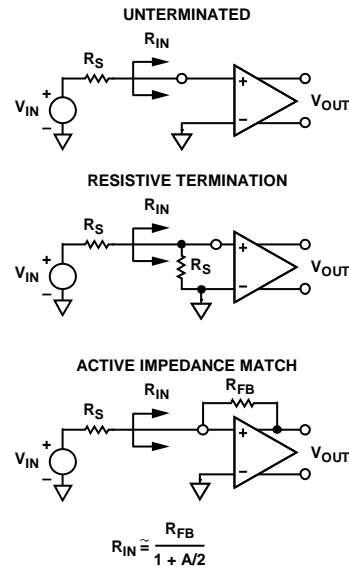
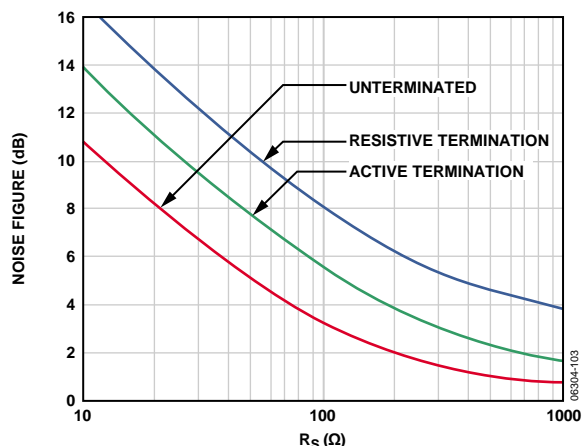
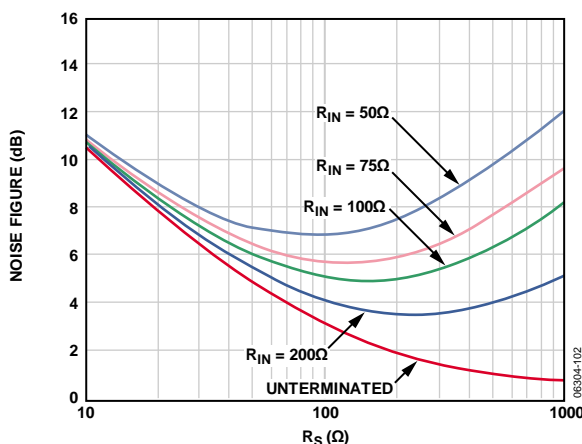

Figure 43. Input Configurations
Figure 44. Noise Figure vs. R_S for Resistive Termination, Active Termination Matched, and Unterminated Inputs, $V_{Gain} = 1$ V, 15.6 dB LNA Gain
Figure 45. Noise Figure vs. R_S for Various Fixed Values of R_{IN} , Active Termination Matched Inputs, $V_{Gain} = 1$ V, 15.6 dB LNA Gain
The short-circuit noise voltage (input-referred noise) is an important limit on system performance. The short-circuit noise voltage for the LNA is 1.2 nV/ $\sqrt{\text{Hz}}$ or 1.4 nV/ $\sqrt{\text{Hz}}$ (at 15.6 dB LNA gain), including the VGA noise. These measurements, which were taken without a feedback resistor, provide the basis for calculating the input noise and noise figure (NF) performance of the configurations shown in Figure 43. Figure 44 and Figure 45 are simulations of noise figure vs. R_s results using these configurations and an input-referred noise voltage of 4 nV/ $\sqrt{\text{Hz}}$ for the VGA. Underterminated ($R_{FB} = \infty$) operation exhibits the lowest equivalent input noise and noise figure. Figure 45 shows the noise figure vs. source resistance rising at low R_s —where the LNA voltage noise is large compared with the source noise—and at high R_s due to the noise contribution from R_{FB} . The lowest NF is achieved when R_s matches R_{IN} .
The primary purpose of input impedance matching is to improve the transient response of the system. With resistive termination, the input noise increases due to the thermal noise of the matching resistor and the increased contribution of the LNA's input voltage noise generator. With active impedance matching, however, the contributions of both are smaller (by a factor of $1/(1 + \text{LNA Gain})$) than they would be for resistive termination. Figure 44 shows the relative noise figure performance. In this graph, the input impedance was swept with R_S to preserve the match at each point. The noise figures for a source impedance of 50 Ω are 7.1 dB, 4.1 dB, and 2.5 dB for the resistive termination, active termination, and unterminated configurations, respectively. The noise figures for 200 Ω are 4.6 dB, 2.0 dB, and 1.0 dB, respectively.
Figure 45 shows the noise figure as it relates to R_S for various values of R_{IN} , which is helpful for design purposes.